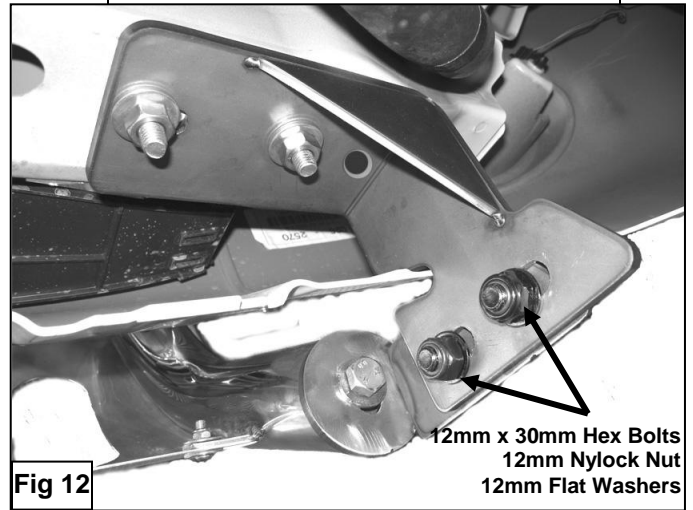

**Fig 10**
14. Remove the two outer skid plate upper bolts on the Bull Bar (**Figure 10**). **NOTE:** This will be the Top Bracket mounting location.